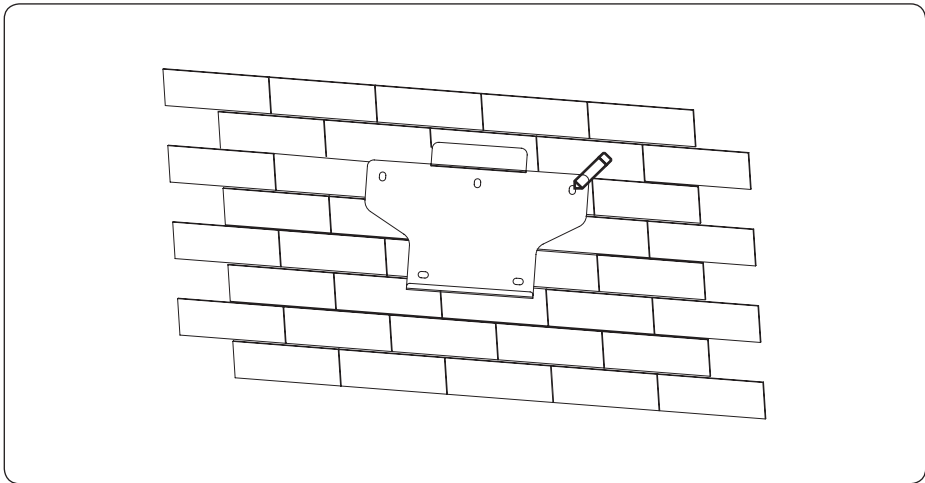

Figure 4-5 Mark the hole position
1) Use the wall bracket as the template to mark the position of 5 holes on the wall. See Figure 4-5 for details: